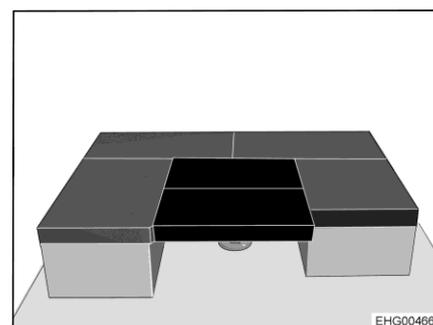

Fig. 175 After conversion
- Place 2 additional cushions transversely on the table (see Fig. 175).